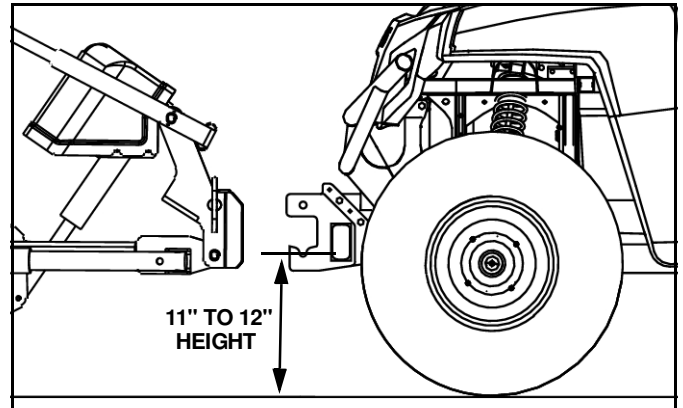

Figure 12
25. Adjust the UTV Mount (#1) on the machine to provide an 11" to 12" height between the lower pin slots and the ground. (See Figure 12.)